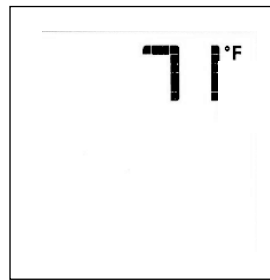

Figure 8.11.
- Press the ON/OFF Key. The display will show only the room temperature and icon. At the same time, the Receiver will deactivate the call for heat and the burner will shut down. Fig. 8.11. A single “beep” from the Receiver will confirm reception of the command.